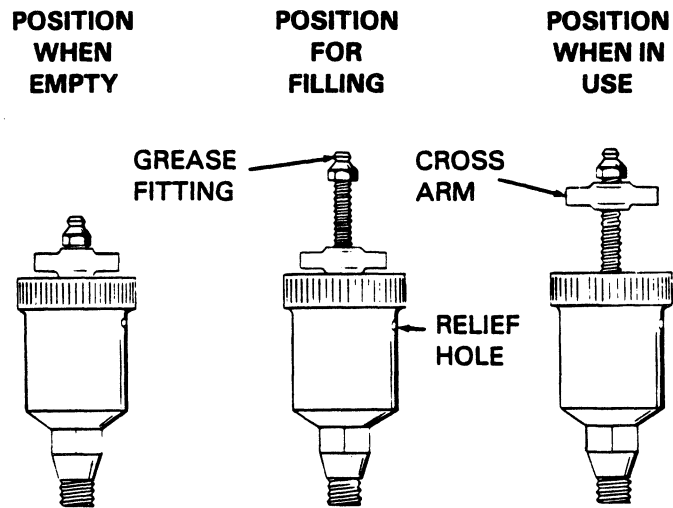

Figure 4. Automatic Lubricating Grease Cup
Before attempting to remove the impeller (2), turn the cross arm on the automatic lubricating grease cup (9) clockwise until it rests against the cover (see Figure 4). This will prevent the grease from escaping when the impeller is removed.
Fill the grease cup (9) through the grease fitting with No. 2 lithium base grease until grease escapes from the relief hole. Turn the grease cup arm counterclockwise until it is at the top of the stem; this will release the spring to apply grease to the seal (see Figure 4).